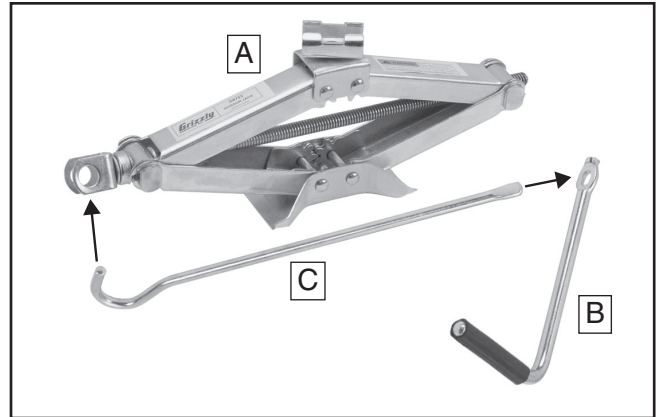

Figure 1. Model G8723.
2. Connect the jack handle and rocker bar, and insert the hooked end of the resulting assembly into the jack base as shown in **Figure 1**.
## Inventory (Figure 1)